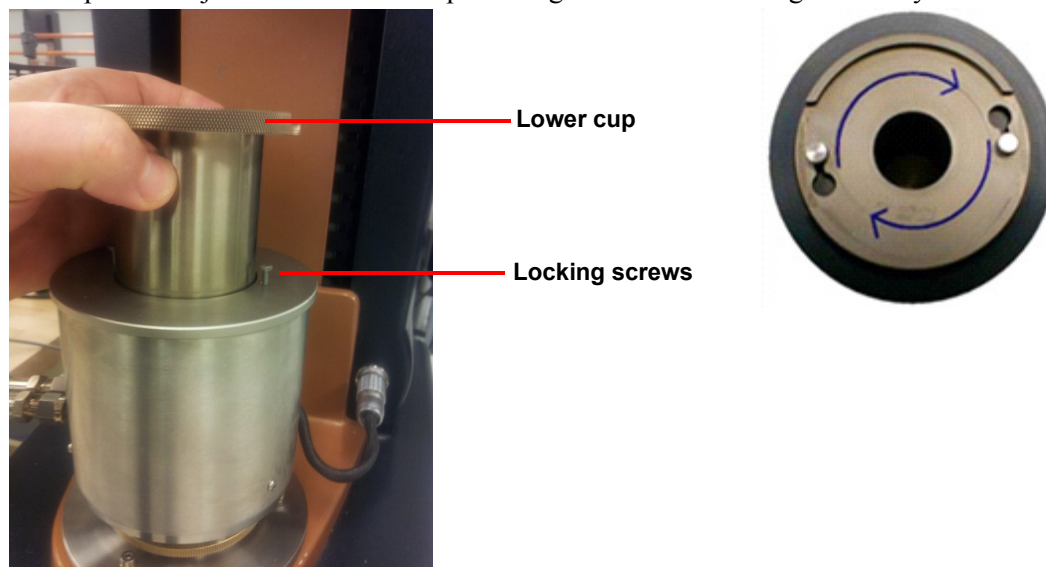

Figure 20 Installing the lower cup (left); Rotate cup clockwise to clamp and counterclockwise to release (right).
- 1 Undo the two locking screws on the cup. Turn and lift out the cup as shown in the Figure 20.